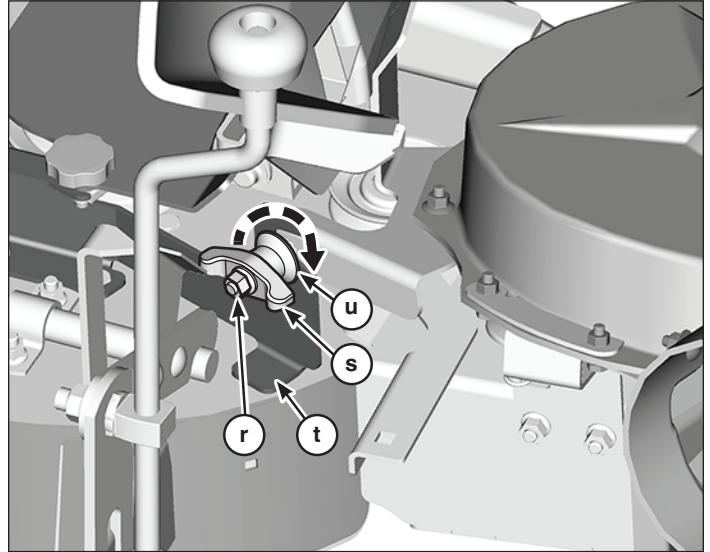

Figure 14
3. Align carriage bolt (r, Figure 14) and wing nut (s) to cover latch bracket (t).
NOTE: Ensure cup washer (u) is on the outside of the cover latch bracket (t) as shown in Figure 14.